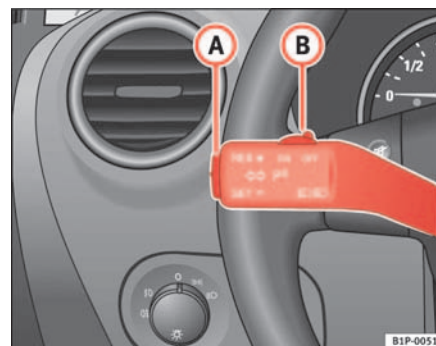

Fig. 127 Turn signal and main beam lever: switch and rocker switch for CCS
- Press the upper part **RES+** of the rocker switch ⇒ fig. 127 **A** to increase the speed. The vehicle will continue to accelerate for as long as you keep the rocker switch pressed. When you release the switch, the new speed is stored.
Control of the set speed is switched off if you reduce speed by depressing the brake pedal. You can reactivate the control by pressing once on the upper part of the rocker switch **RES+** → page 166, fig. 127 **A**.